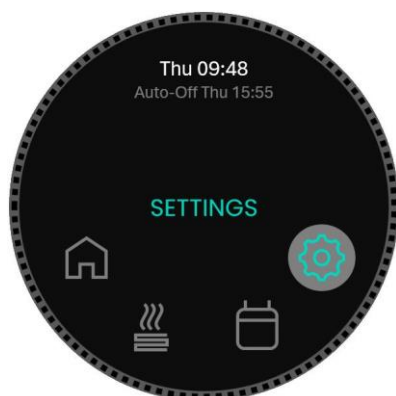

Figure 5. $\varnothing=8\text{mm}$ push-in water mains connection at the back right of the machine and reinforced hose with push-in adapter.
- Connect the water-feed hose supplied to the water treatment system and plug the other side (push-in connector) into the machine (see Figure 5).